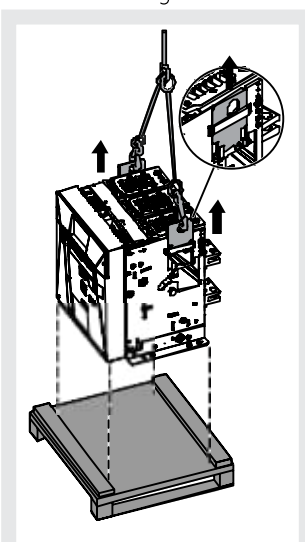
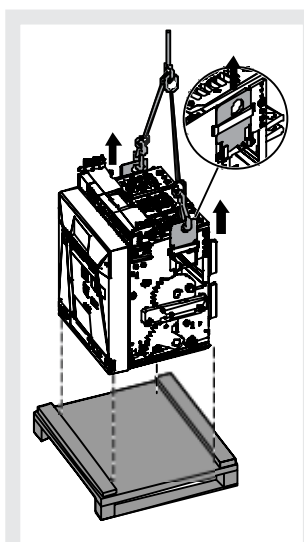

Figure 20
Figure 21
- Lift the circuit-breaker from the base of the package with the aid of the lifting plates. See Figure 20 and Figure 21.